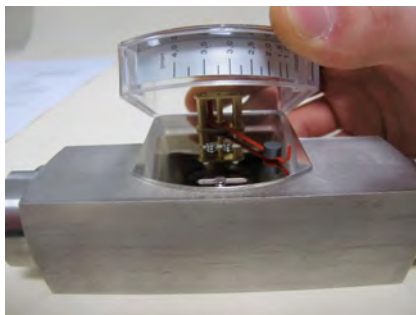

Fig. 38
2. ➤ Carefully remove the display cover plate along with the plastic housing from the base plate. Make sure that the movement is not damaged (Fig. 38).